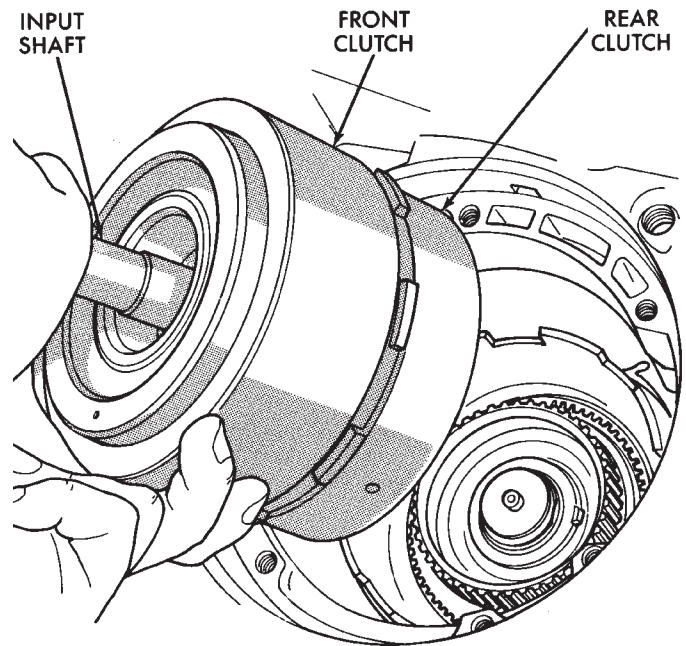

Fig. 146 Installing Front/Rear Clutch Assemblies
(7) Raise front end of transmission upward as far as possible and support case with wood blocks. Front/rear clutch and oil pump assemblies are easier to install if transmission is as close to upright position as possible.
(8) Install front and rear clutch units as assembly (Fig. 146). Align rear clutch with front annulus gear and install assembly in driving shell. **Be sure output shaft thrust washer and thrust plate are not displaced during installation.**
(9) Carefully work assembled clutches back and forth to engage and seat rear clutch discs on front